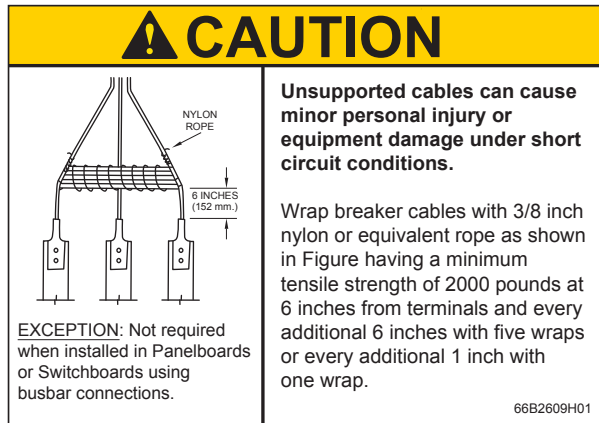

Figure 16. Rope lacing instructions
4. When making the cable terminal connections, properly torque the cable retaining screws and periodically check all mounting hardware for proper torque loading. Refer to **Figure 16** for rope lacing support instructions.